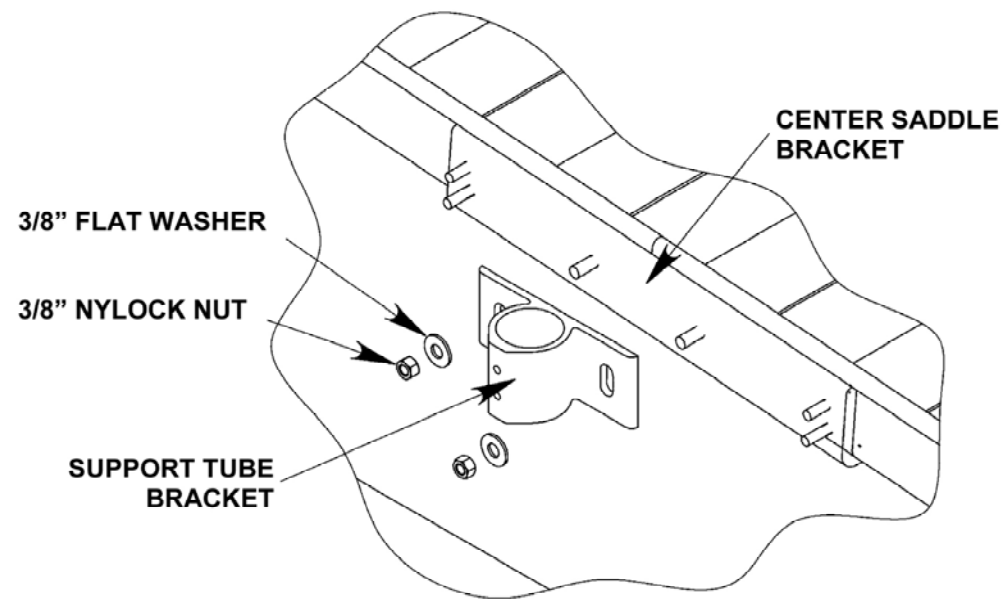

FIG. 19
- xiv) Attach support tube bracket to the center saddle bracket using $\frac{3}{8}$ " nylock nuts and $\frac{3}{8}$ " washers (FIG. 19).